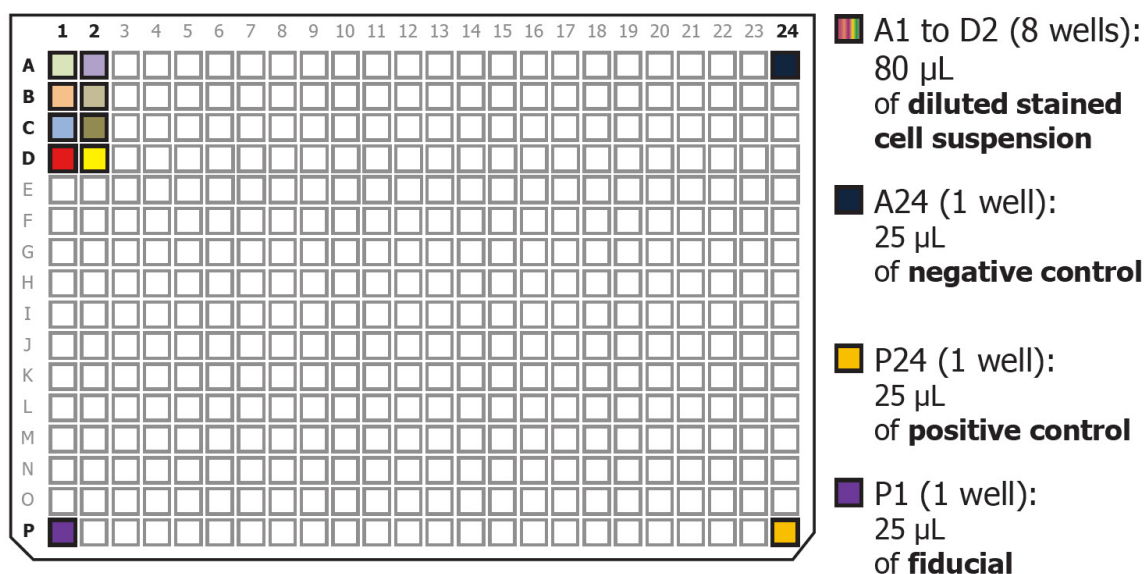

Figure 11. Setting up the 384-well source plate for dispensing cell samples and controls.
†The 1,000-µl total volume of diluted stained cell suspension is sufficient for distributing 80 µl of cell suspension in each of eight source wells (see Figure 11, below).
6. Using a 200- $\mu$ l pipette tip, slowly and carefully load 80  $\mu$ l of cell suspension into wells A1, A2, B1, B2, C1, C2, D1, and D2 of an MSND 384-Well Source Plate as indicated in Figure 11 (below).
7. Add Positive Control, Negative Control, and ICELL8 Fiducial Mix (1X) to the 384-well source plate as indicated in the following steps and in Figure 11 (below):